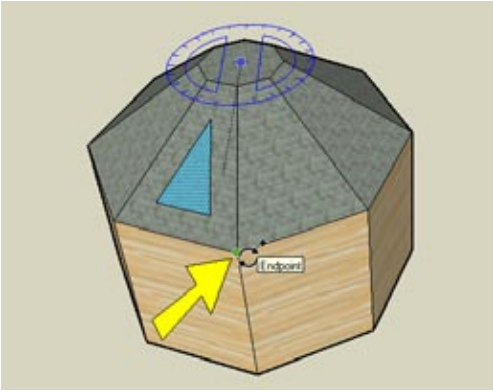

Figure 1-44
6. The next two clicks define the rotation angle. The first click defines the angle's baseline, and the second click defines the rotation angle relative to the baseline. Press Ctrl/Option to make a copy (look for the + sign on the cursor), and click any corner of any octagon (top, middle, or bottom of the building), as shown in Figure 1-44.